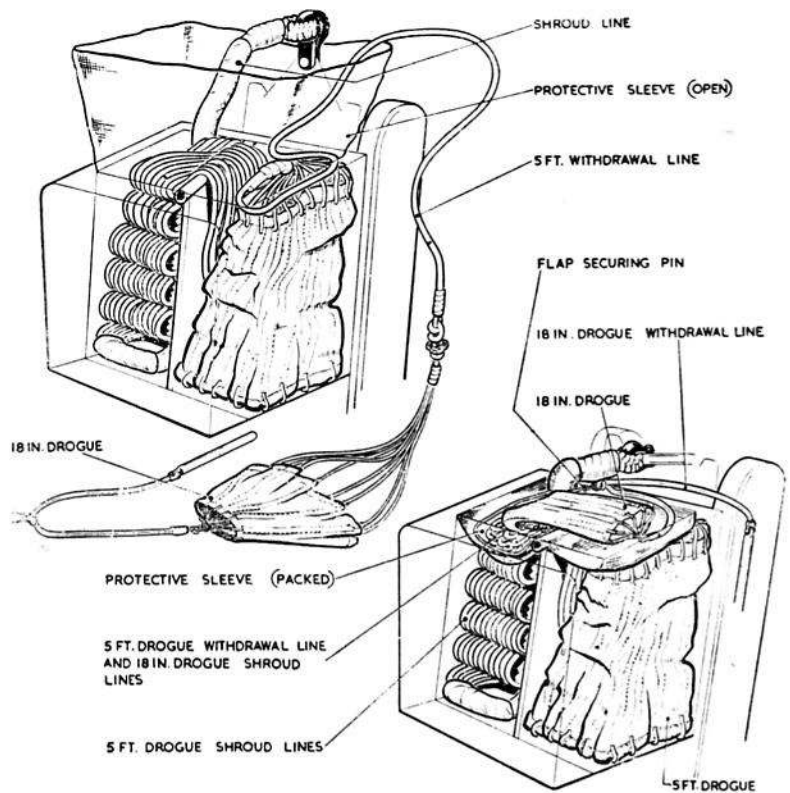

Fig. 20. Stowing the drogues
- (2) Insert the sleeve-protected shroud lines from the shackle into the rearmost outer corner of the right-hand compartment of the drogue container and fold the shroud lines as shown in the upper diagram of fig. 20.
- (3) Extend the remaining shroud lines and check that they are not entangled; fold the 5 ft. drogue into three double folds and pack into the left-hand compartment.
- (4) Cover the shroud lines and the 5 ft. drogue with the protective sleeve. The 5 ft. drogue withdrawal line must emerge from the protective sleeve in the right-hand compartment.
- (5) Fold the 5 ft. drogue withdrawal line and the 18 in. drogue shroud lines on top of the protective sleeve in the right-hand compartment and stow the 18 in. drogue as shown in the lower diagram of fig. 20.
- (6) Close the flaps in the following order:— port (1), starboard (2) rear (3) and front (4). The wire loop must pass through each eyelet in turn and the 18 in. drogue withdrawal line must emerge from the rearmost corner nearest the drogue gun.
- (7) Insert the flap securing pin attached to the 18 in. drogue withdrawal line through the